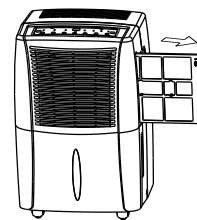

Fig. 11A
- Grip the tab on the filter and pull it out as shown in Fig.11A.